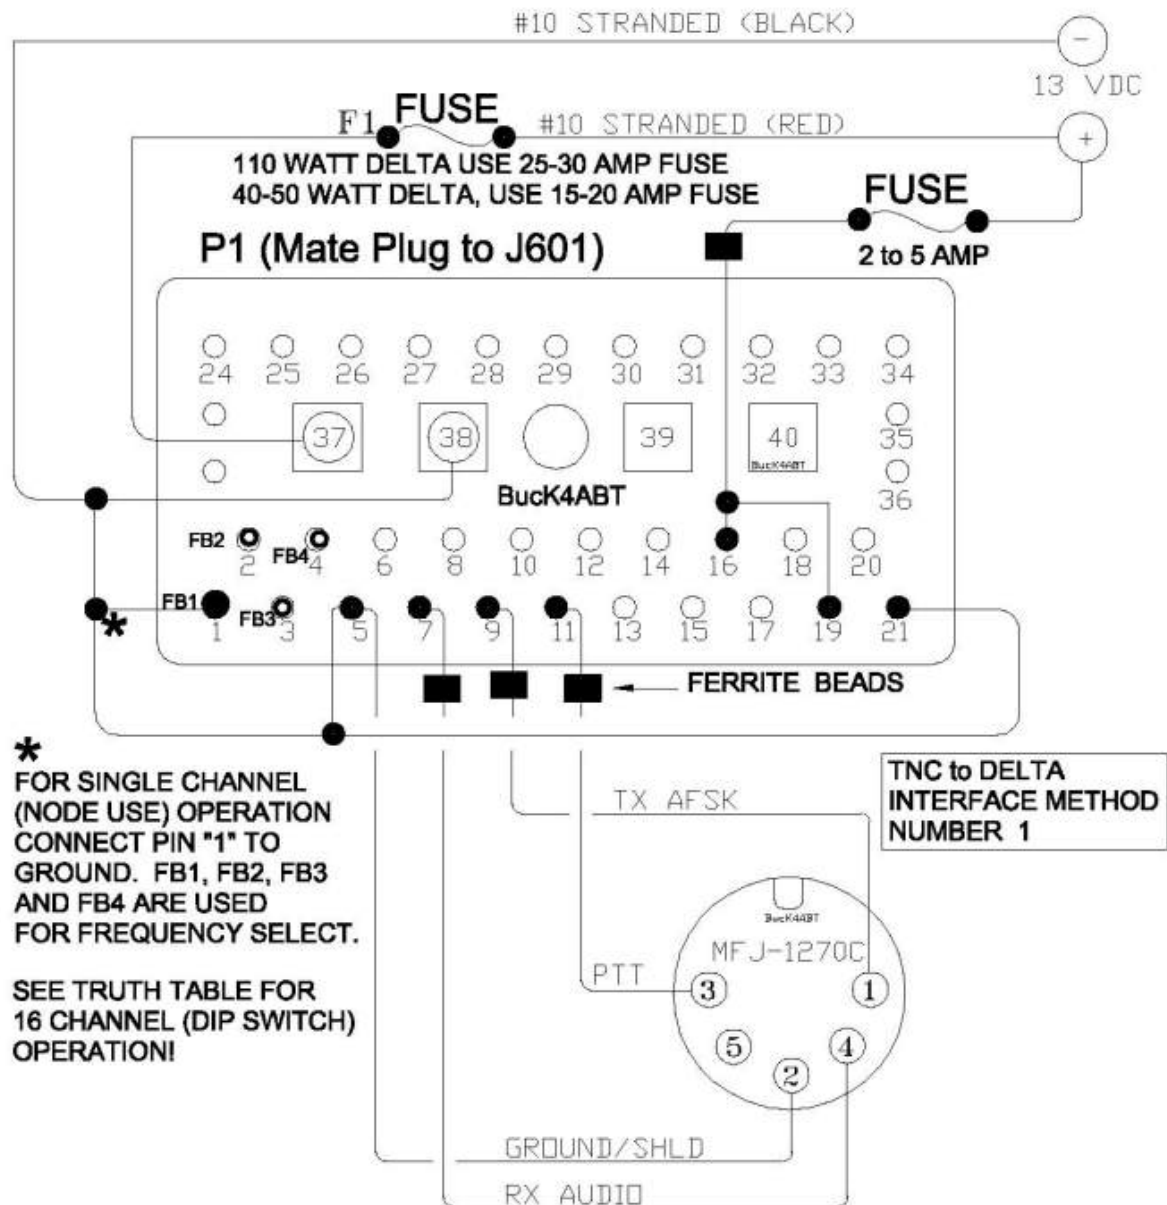

Figure 1
Make sure the Delta is in good working condition (use the test cable connector shown above or **See Figure 1 in the 1200 baud mod page at: "<http://www.packetradio.com/0699snl.html>"**), once we have tested it as described in the 1200 baud mod page, we can proceed.
If the LED is lit when the transmitter is keyed, adjust L209 (CW) a few turns. In either case, be sure you have the DVM connected to test point J202, (See figure 1). In both transmit and receive, the locked VCO voltage should be set between 2.7 and 5.5 volts. DO NOT allow the VCO locked voltage to exceed 6 volts.
Although there is a 9600 baud Data Input test point (J303), or staking pin located on top of the PCB, I made all my input, output, and PTT connections below (See above photo) the circuit board. For the benefit of noting the location of J303, it is very close to C313, or just behind the EEPROM socket. J303 and J712 are located side beside. J303 is the pin nearest dual jumper pins J/P707 and nearest the edge of the PCB. Again, all these points should be clearly marked on top of the main PC board (See Figure 1).